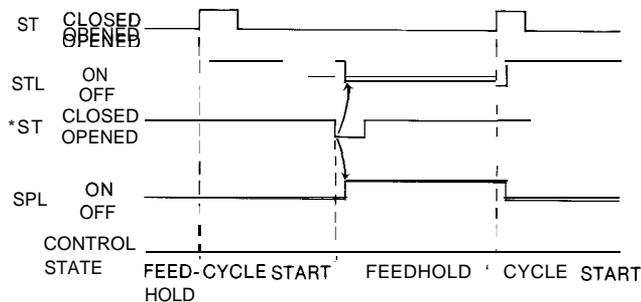

Fig. 20.4 **Timing Chart for Input of Cycle Start (ST), Stop (* SP), and Output of Cycle Start (STL), Feedhold (SPL)**
- (2) When the following state is entered after cycle start, the control completes operation control, and turns off the STL output.
- (3) When the feedhold input contact “* SP” is opened during automatic operation, the automatically controlled motions, etc. are interrupted, and at the same time the cycle start output STL is turned off and the feedhold output SPL is turned on. While a block of thread cutting instruction is being executed, the feedhold input is disregarded.
- (4) When the feedhold input contact * SP is closed, and cycle start input contact ST is closed and opened, temporary stop SPL is turned off, and automatic operation is restarted. The cycle start output STL is turned on also.
Timing chart for input of cycle start (ST), feedhold (* SP), and cycle start (STL) and temporary stop (SPL) is shown in Fig. 20.4.